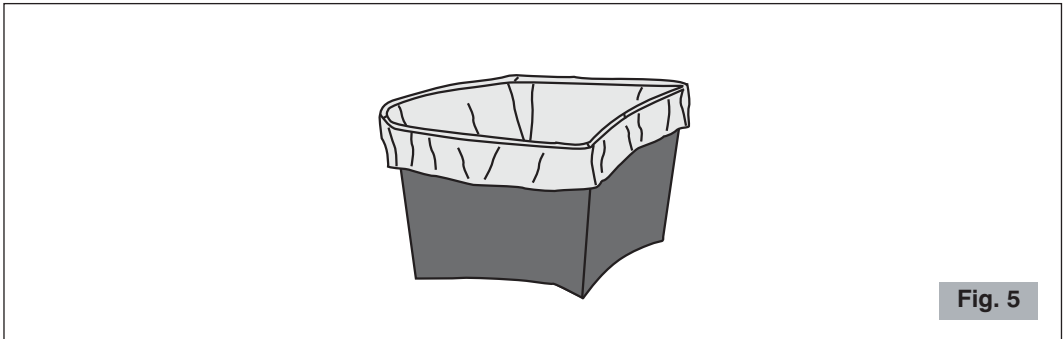

Fig. 5
**Suggestions:** to reduce the cleaning procedures to a minimum we suggest placing a biodegradable plastic bag inside the pulp container and folding the top of the bag over the edge of the pulp container (see Fig. 5). By using this method, once you have finished using the appliance, you can put the waste directly into a composting or waste bin.
**Suggestions:** to reduce the cleaning procedures to a minimum we suggest placing a biodegradable plastic bag inside the pulp container, folding the top of the bag over the edge of the pulp container (see Fig. 5). By using this method, once you have finished using the appliance, you can put the waste directly in a composting or waste bin.